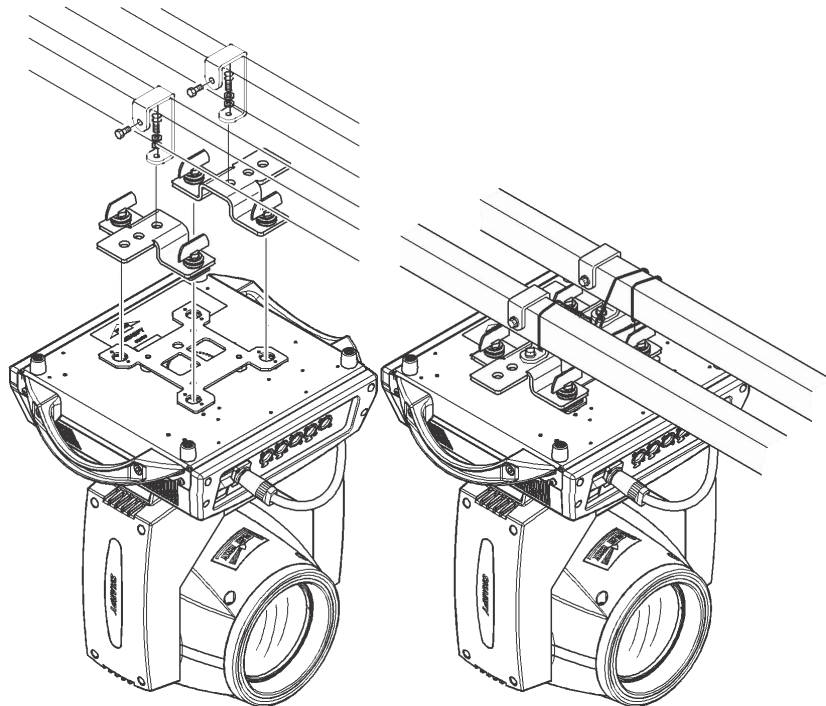

Figure 2
- We must pay attention to the installation method when hanging in oblique and inverted hanging. As shown in Figure 2, before positioning the lamps, to ensure the stability of the installation site, in the reverse hanging installation, must ensure that the lamps do not fall off the support frame, need to use safety rope through the support frame and lamp handle for auxiliary hanging, to ensure safety. Prevent the lamps from falling and sliding.